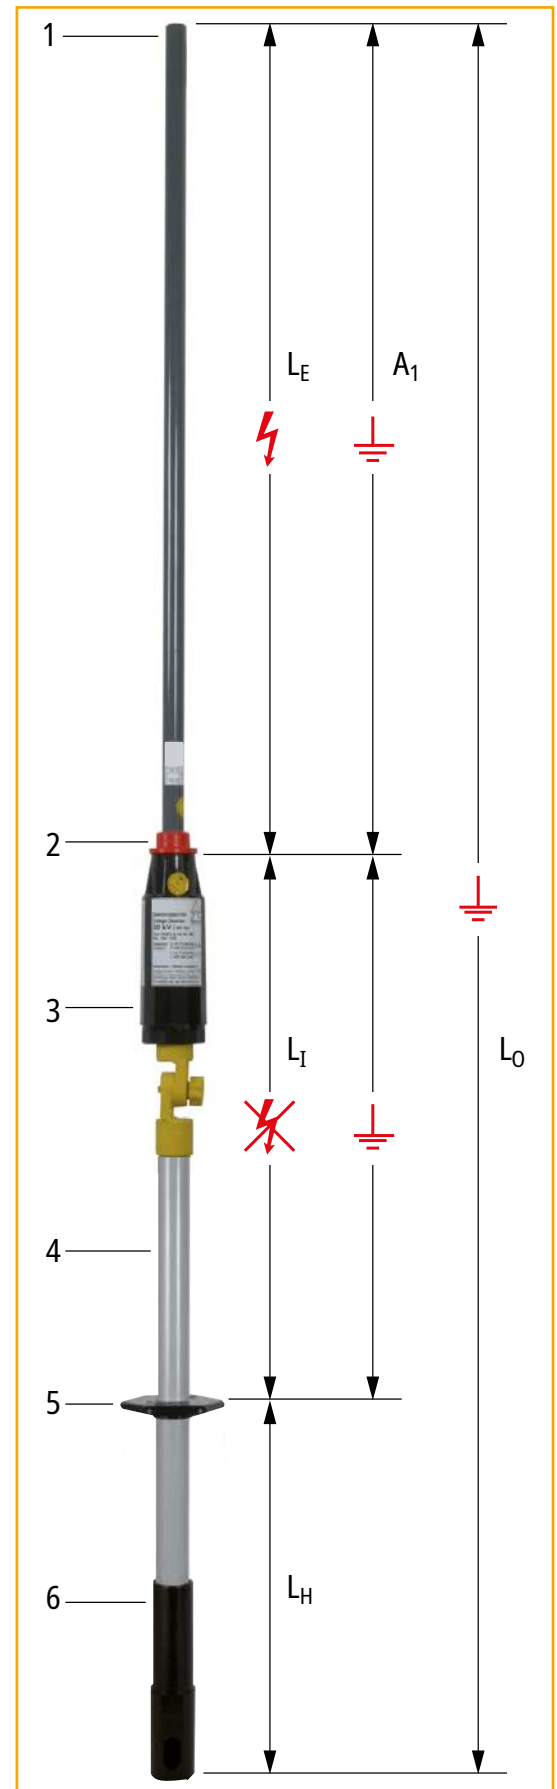
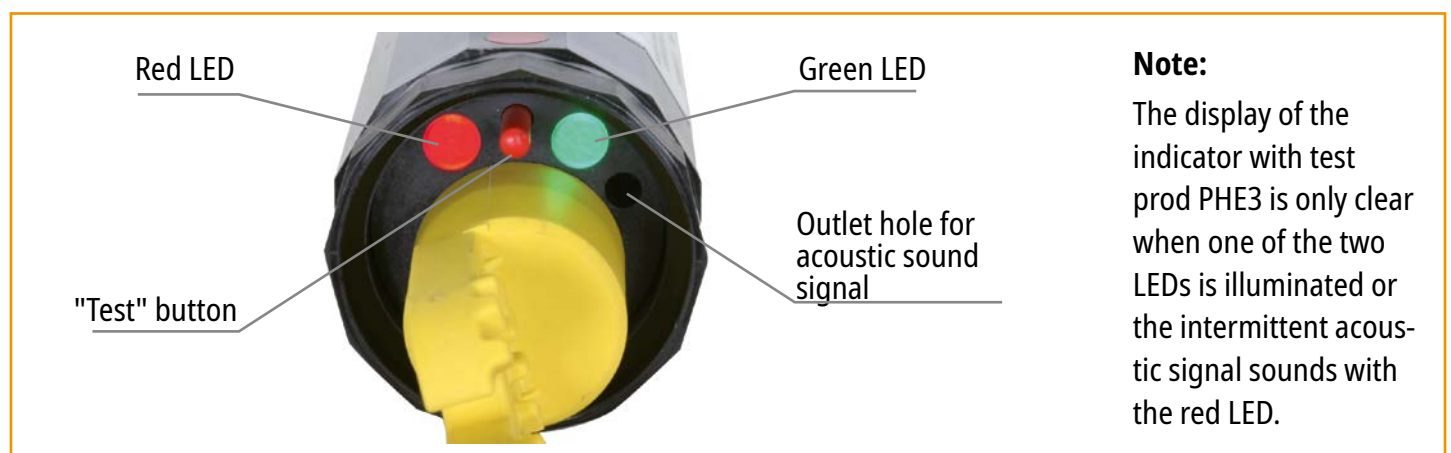

Figure 6
Figure 7
- The modular voltage detector PHE3 may only be applied to earthed system components in the area of the insulating element (see Figure 6).
- The modular voltage detector PHE3 may be applied to live and earthed system components from the front end (contact electrode) to the red ring (2) (see Figure 6).
- The modular voltage detector PHE3 may be applied to earthed system components throughout the entire area (see Figure 6).
Before checking for a dead condition, the function check must be performed. Pressing the **"TEST"** button (see Figure 7, page 15) will both turn the indicator on and check it is working properly (response threshold check). When the **"TEST"** button is pressed, the red LED lamp outputs a flashing light and the acoustic indicator outputs an intermittent sound signal, while the green LED has a permanent light following release.
If, after releasing the **"TEST"** button, both LEDs show a permanent light and a continuous acoustic signal sounds, the battery is empty. The detector is no longer ready for operation. A new battery must be inserted (see Fig. 7, Table 5 and section 6 on page 16).
(acoustically) via the indication signals of the detector (see Fig. 7 and Table 5, page 16). The voltage test may only be carried out while the green LED has a permanent light; i.e. it is ready for operation. After a time of **approx. 90 to 120 sec.** the device switches off automatically. For further tests, the **"TEST"** button must be pressed again and the function check carried out. The indicator with test prod PHE3 is immediately test-ready again (see section 5.1 and Figure 7). If **"Voltage present"** is displayed, an electronic lock prevents automatic switch-off during the test procedure, and once the test procedure has been completed, the "test-ready" status (permanent light, green LED) is maintained for the duration of the time of readiness for operation (see Fig. 6 and Table 5, page 16).
The PHE3 indicators with test prods have a **standby function**. This means that the function check does not necessarily have to be carried out to activate the device. The device can also be applied to the system component to be tested when it is deactivated (switched off). If the system component is energised, the electronics of the device activate automatically and "voltage present" is indicated by the flashing red LED and the intermittent sound signal (see Fig. 7 and Table 5, page 16).
Assembly occurs in reverse order to the above. When inserting the electronic element (3), make sure that the red "TEST" button (8) and the red marking point (7) match (see arrow in Fig. 7). The guides (5) must engage in the guide slots (6). After inserting the electronic element (3), the sealing ring (4) must be screwed tightly and completely together with the enclosure (1) (see Figure 7).